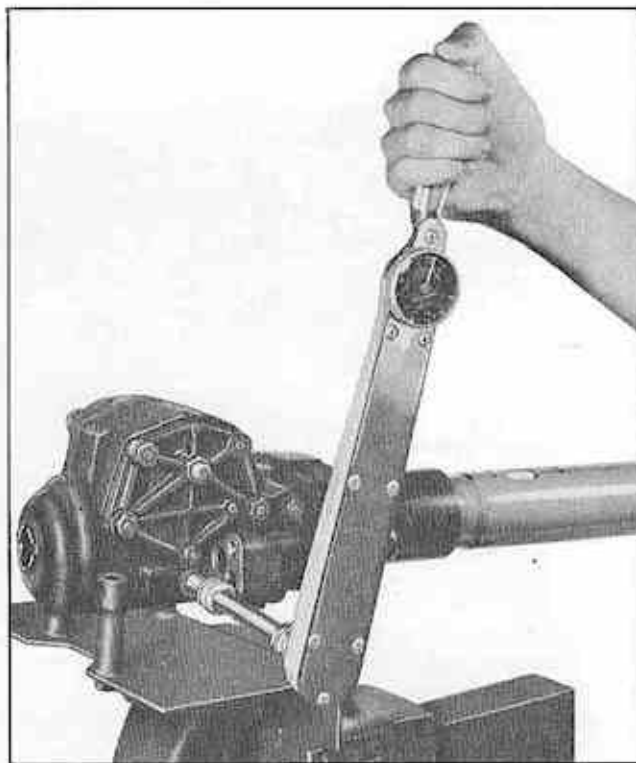

Fig. 86 Tightening Control Valve Retaining Screws
4. Install control valve retaining screws starting with screw on lower end of control valve, tighten to 15 to 20 lb. ft. torque (Fig. 86). NOTE: Be sure not to force valve in either direction while tightening retaining screws as this will cause malfunctioning of the valve.